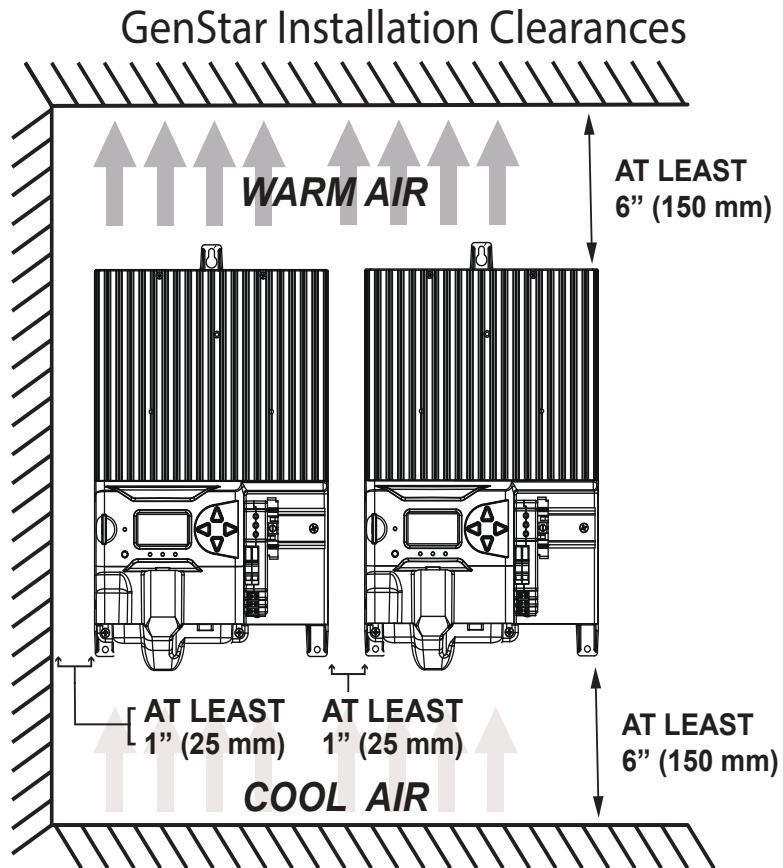

Figure 3-1. Required mounting clearance for proper air flow
Refer to Figures 3-1 and 3-2.
- B. Verify that there is at least 6" (150mm) of space above and below the unit, and at least 3" (75 mm) around the heatsink - see Figure 3-1.